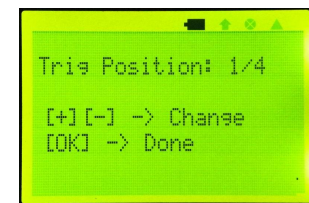

Fig 10
- 2) Scroll the highlight bar to "TRIG POSITION" using [+] or [-] button and [OK]. This will bring up trig position adjustment screen (Fig. 10).